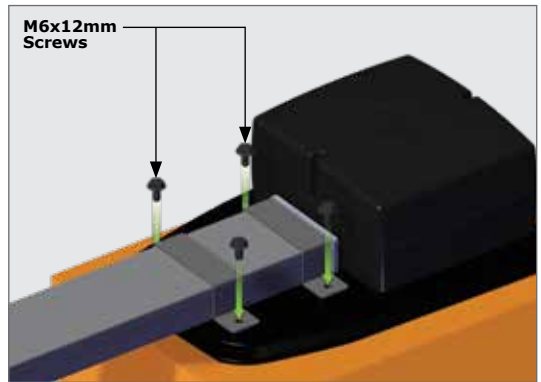

FIGURE 10
5. Secure the U-Brackets into position using 4x black M6x12mm screws (Figure 10).